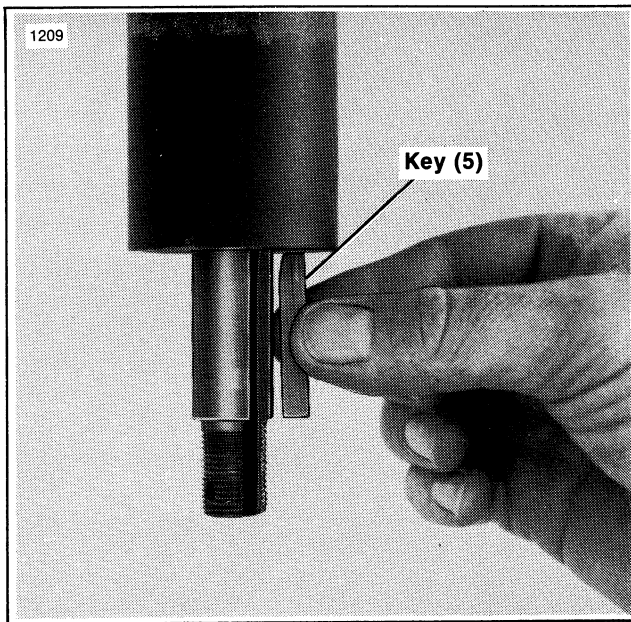

Figure 3-7. Axle Key Installation
5. Install key (5) into slot in axle. Position key so tapered end is toward housing, and outside end of key is flush with inside edge of threads (Figure 3-7).
6. Install flange (4), washer (3) and nut (2).
9. Tighten axle nut (2) to 50 ft-lbs (6.9 kgm) torque and continue to tighten until nearest cotter pin hole lines up. Install cotter pin (1).